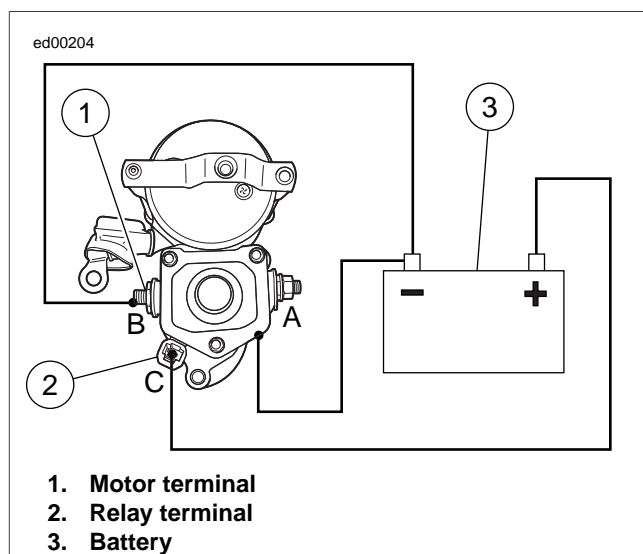

Figure 1-8. Pull-In Test
Do not disassemble solenoid. Before testing, disconnect field wire from motor terminal as shown in Figure 1-8.
1. See Figure 1-8. Use a 12 Volt battery and connect three separate test leads as follows: